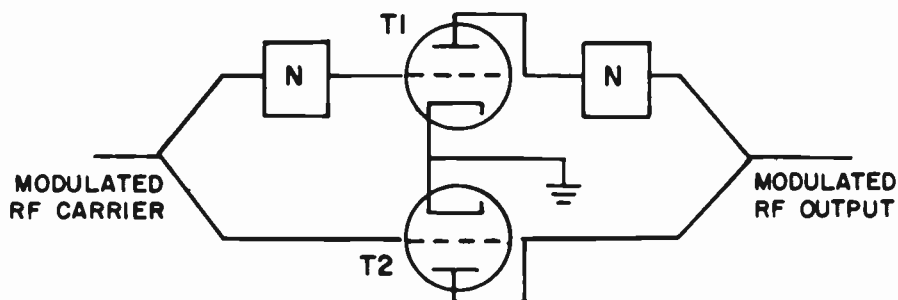

FIG. 14-11. A DOHERTY AMPLIFIER.
**4 THE DOHERTY AMPLIFIER.** It has been stated above that the ordinary linear Class B modulated r-f amplifier has an efficiency of about 40%. This results in a tremendous waste of power when we are dealing with a high power station. The search for a more efficient linear power amplifier led to the development of the DOHERTY amplifier. The Doherty amplifier has an efficiency of approximately 65%. Fig. 14-11 illustrates the form that a